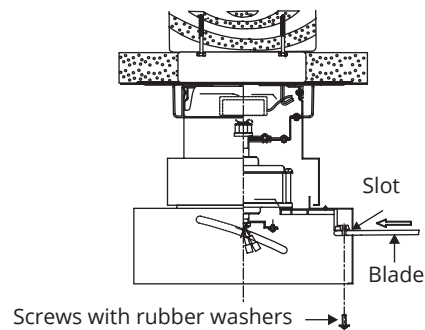

FIGURE 14
Wall control to wall outlet box electrical connections: (Fig. 14)
1. Insert the blade through the slot in the housing. Align the holes in the blade with the fan motor assembly holes and secure with a blade attachment screw with rubber washers. (Fig. 14)